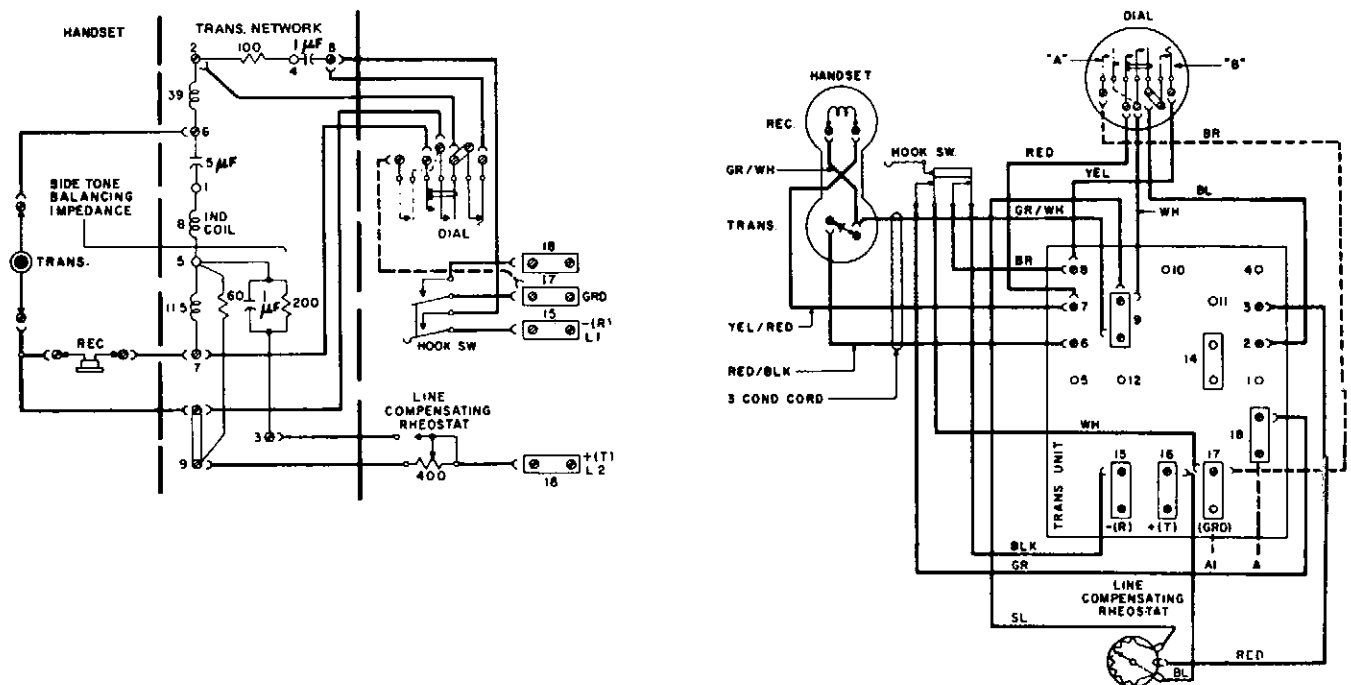

Figure 10. Schematic and Wiring Diagram for Manually-Adjusted Type 183 Telephone.
4.17 For manually-adjusted telephones (Figure 10), connect a 0.03-microfarad capacitor across terminals 6 and 9 or across the transmitter terminals in the handset, whichever is more convenient.